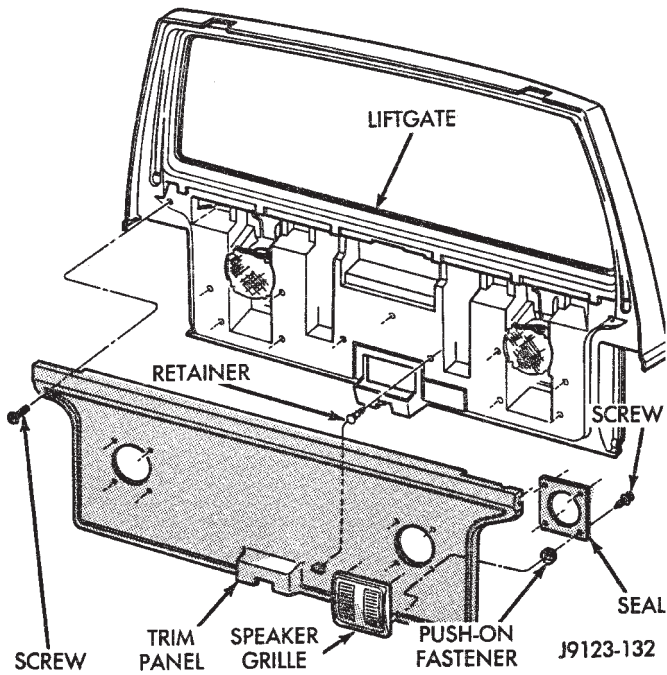

Fig. 110 Liftgate Trim Panel
- (1) Open the liftgate.
- (2) Remove the liftgate trim panel (Fig. 110).